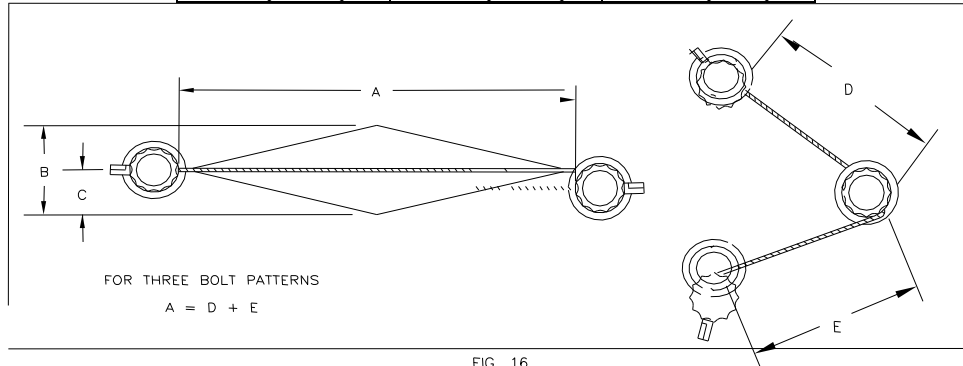

FIG. 16
- 4.1** Verify proper tension of the cable. Refer to TABLE 1 & FIGURE 16 for Safe-T-Cable® flex limits.